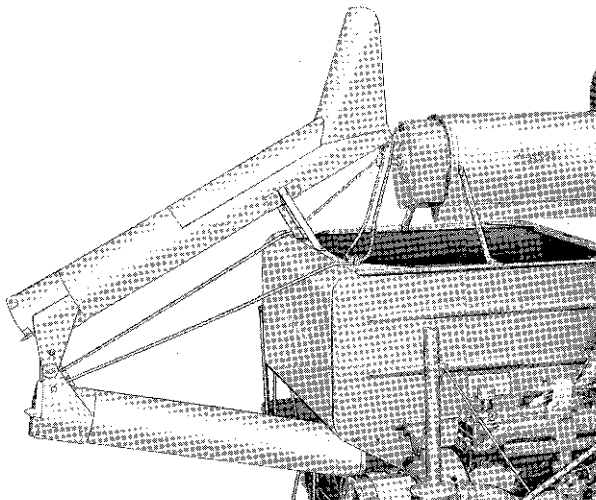

Figure 10-5-8—Folding Grain Tank Unloading Auger
**Folding Grain Tank Unloading Auger.** The folding auger reduces the over-all width of the combine for transporting (Figure 10-5-8). When unfolded, it is the same length as the straight auger.